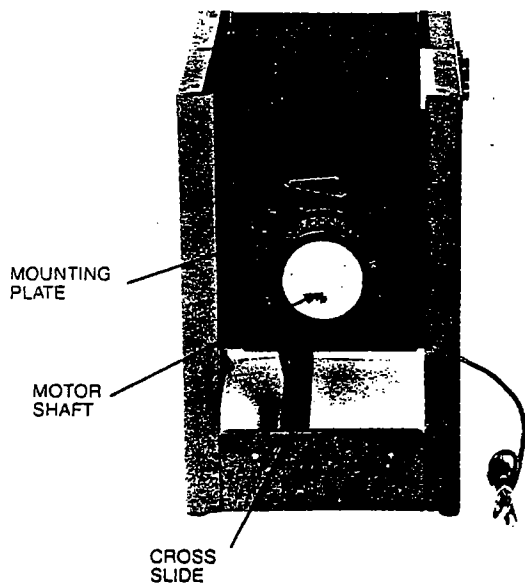

FIGURE 6
2. With motor shaft pointing away from switch and smaller wing of mounting plate up, slide motor and plate onto cross brace (Figure 6).